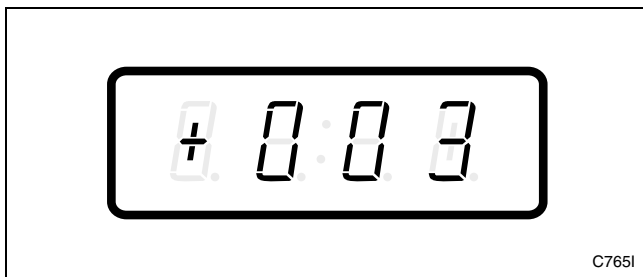

Figure 17
3. Press the LOW TEMP (+) or the NO HEAT (-) keypad to scroll through the programmable options until “+003” appears in the VFD. Refer to *Figure 17*.